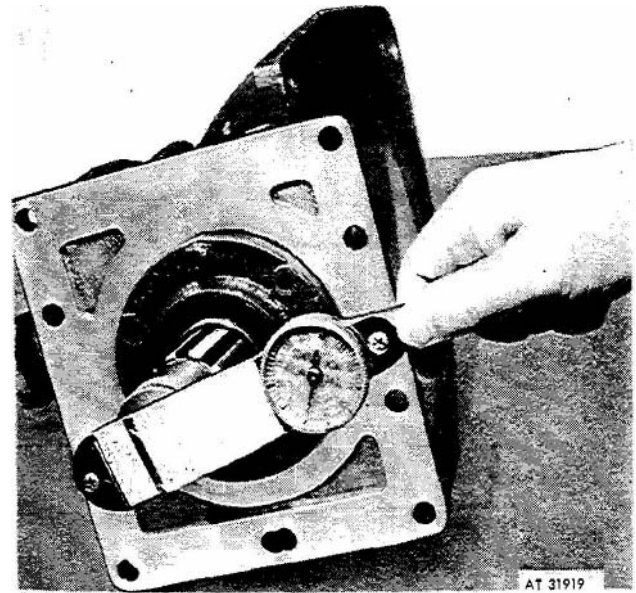

Figure 3-123. Checking pinion preload.
(31) Position retainer (47), housing (50), shims (51), and assembled pinion (53) in housing (15) and secure with three equally spaced screws (40) and washers (39).
**Caution: Make sure that lubrication port in housing (50) is aligned with lubrication port in housing (15) during installation.**
(32) Measure pinion preload using a suitable inch-pound torque wrench (fig 3-123). Preload should be 5-15 **if not, add or subtract** the number of shims (52, fig 3-88) to obtain proper preload. Reassemble and check preload; record *final* preload.